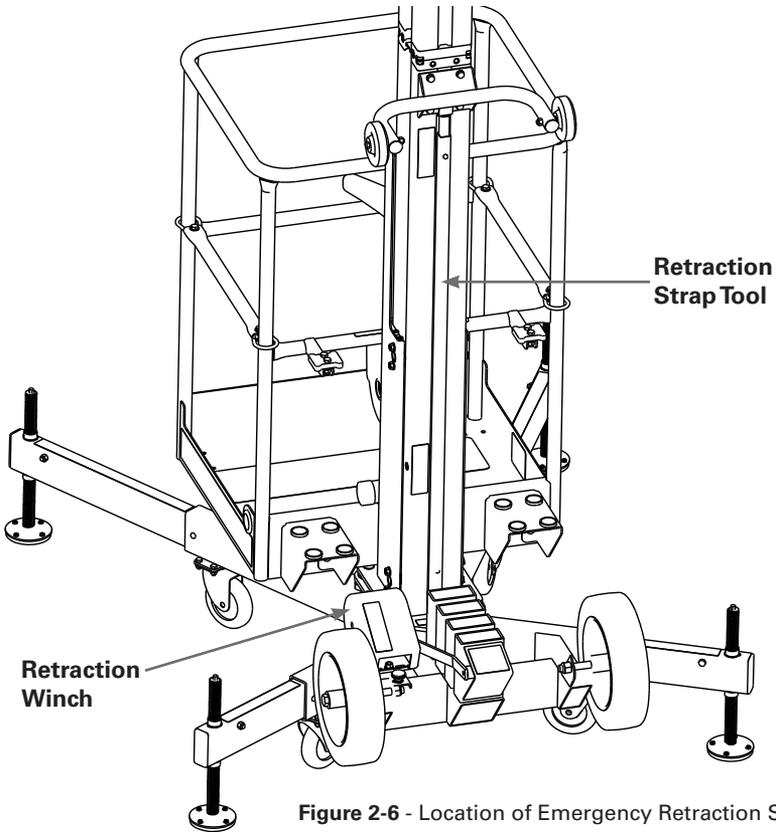

Figure 2-6 - Location of Emergency Retraction System
9. **Emergency Retraction System** - Check to be sure the two components of the retrieval system are present and in good working order; Retraction Winch present, secure, and free of foreign material; Retraction Strap Tool present and secure. (See Fig. 2.6)